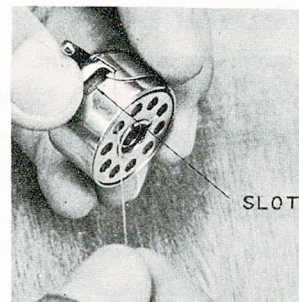
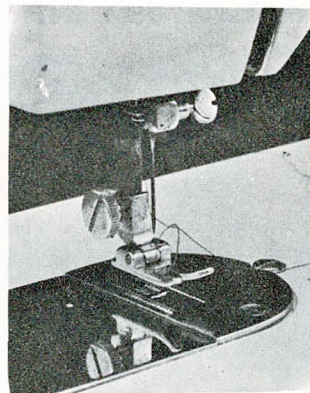

Fig. 6
Fig. 11
Step 1 (illustrated in Fig. 6).
After winding a fresh bobbin and threading the bobbin case (See Fig. 6, 7, & 8) hold the bobbin case latch. (D) with left thumb and forefinger. Keeping the protruding finger (E) topside toward the shuttle race notch (A), press the bobbin case around the stud of the shuttle body (C) until the finger enters in the shuttle race notch. This operation is easy--NEVER FORCE IT. Three or four inches of thread hanging free from the bobbin case will be brought up through the needle plate hole as shown in Fig. 11.
Hold the end of upper thread loosely and turn balance wheel toward you until the needle goes all the way down and comes back up. A loop (Fig. 11) will be formed from the lower thread which then can be pulled out straight. Place both thread ends under the presser foot and draw toward the back of the machine, leaving both threads three or four inches long.